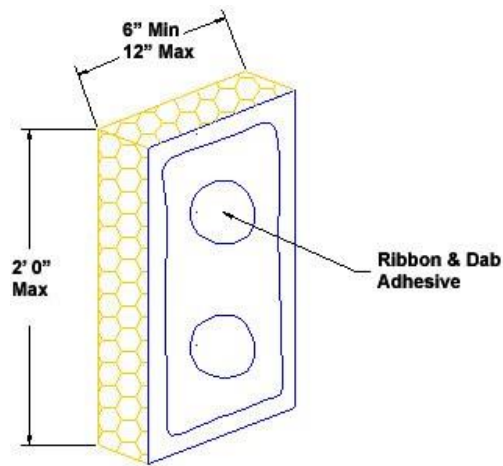
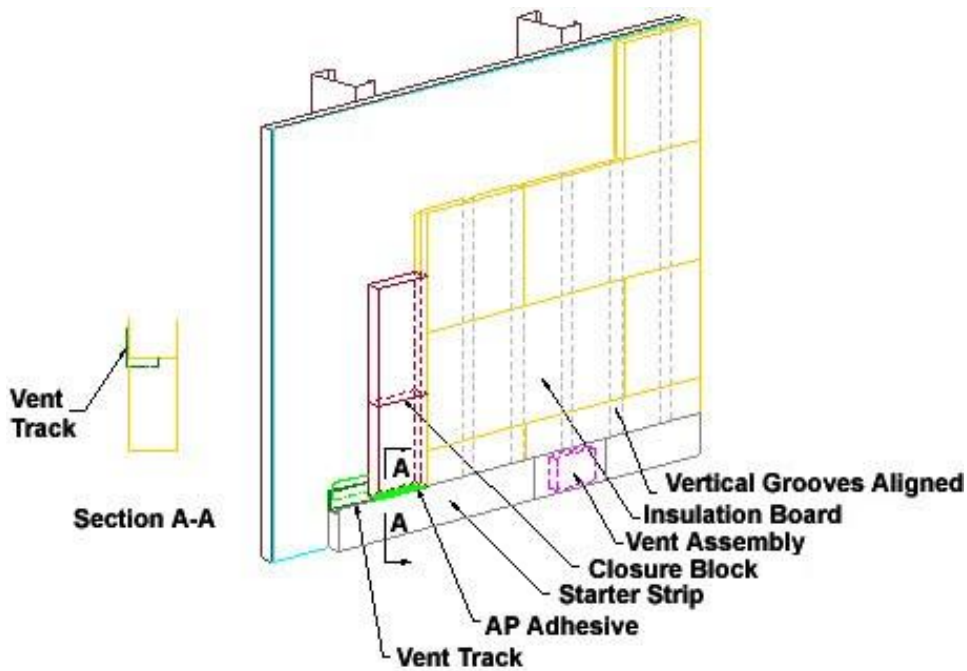

Fig. 20
Fig. 21
2. Apply the Dryvit Adhesive mixture to the back of the Closure Blocks using a ribbon and dab adhesive pattern as shown in Figure 20 and position along the compartment separation line as shown in Figure 21.